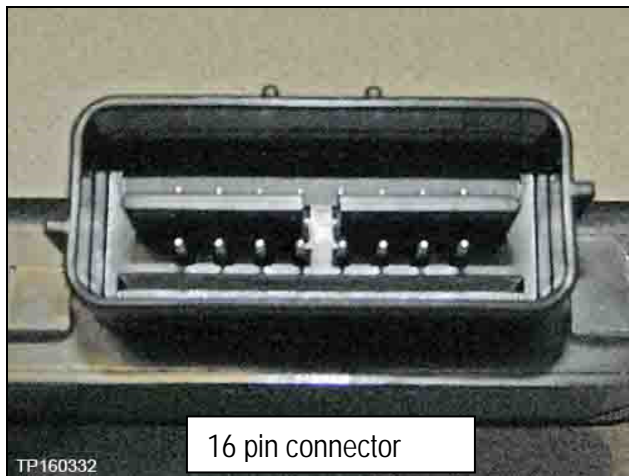

Figure 14
(1) Confirm that the number of pins of the new part are the same as the original (see Figures 14 and 15 below).